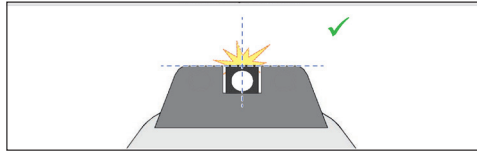
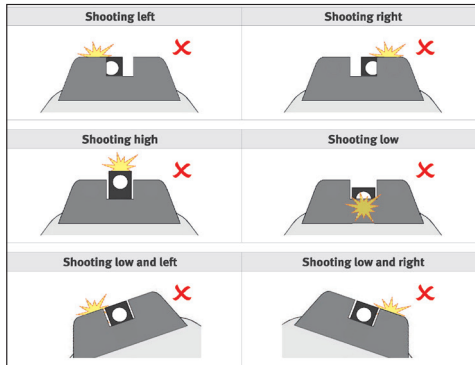

Figure 5 – Correct sight alignment
Figure 6 – Common sight alignment errors
The CC9 is equipped with a traditional sighting system. The sights are adjustable for windage by drifting. Sights are installed and aligned by HK technicians at the factory. Figure 5 shows correct sight alignment, generally for the CC9 series it is a center hold. Figure 6 shows common sight alignment errors.
1. Acquire the proper sight alignment and sight picture (see Figure 5).